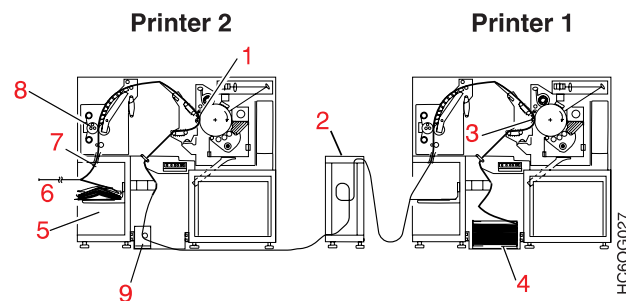

Figure 26. Duplex Mode Reprint Path Length
Automatic reprinting normally requests and reprints the number of pages of data, based on the current in-effect page length, for all of the pages that can fit in the forms path between the transfer station in Printer 1 and the top of the stacker in Printer 2 at the time the jam was detected. Also, if a postprocessing device is used, an extra number of pages can be added to the normal number of reprinted pages. Do this by setting the **Jam Recovery Point Distance** configuration item under the **Configure Printer** procedure to a non-zero value. This extra number of pages is the physically configured distance from the top of the stacker in Printer 2 to or through the postprocessing device. Figure 26 shows the normal reprint path length from the transfer station (3) in Printer 1 to the stacker in Printer 2 (7). It also shows the additional Jam Recovery Point Distance from the stacker in Printer 2 (7) to or through the postprocessing device (6).